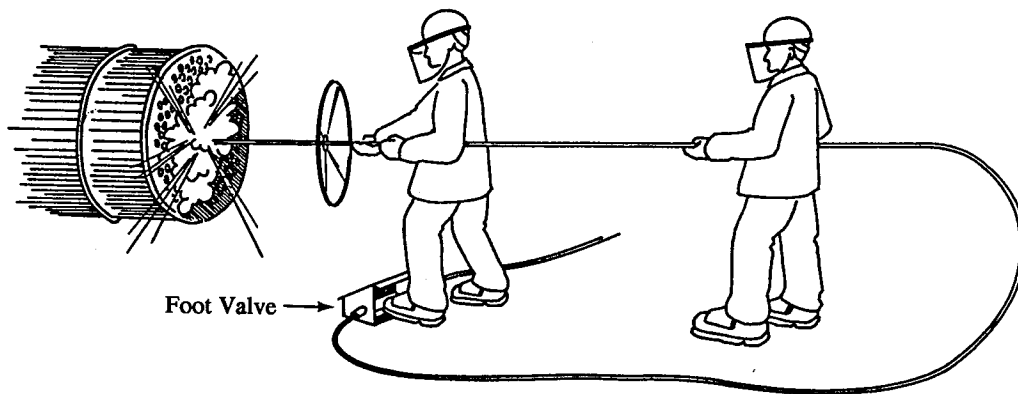

Figure 23. Rigid Lancing
10.10.1 Control - The jetting extension or lance **shall** be fitted with either a dump system or a dry shutoff control valve. The operator inserting the nozzle **shall** have direct control of the dump system (Figure 23).